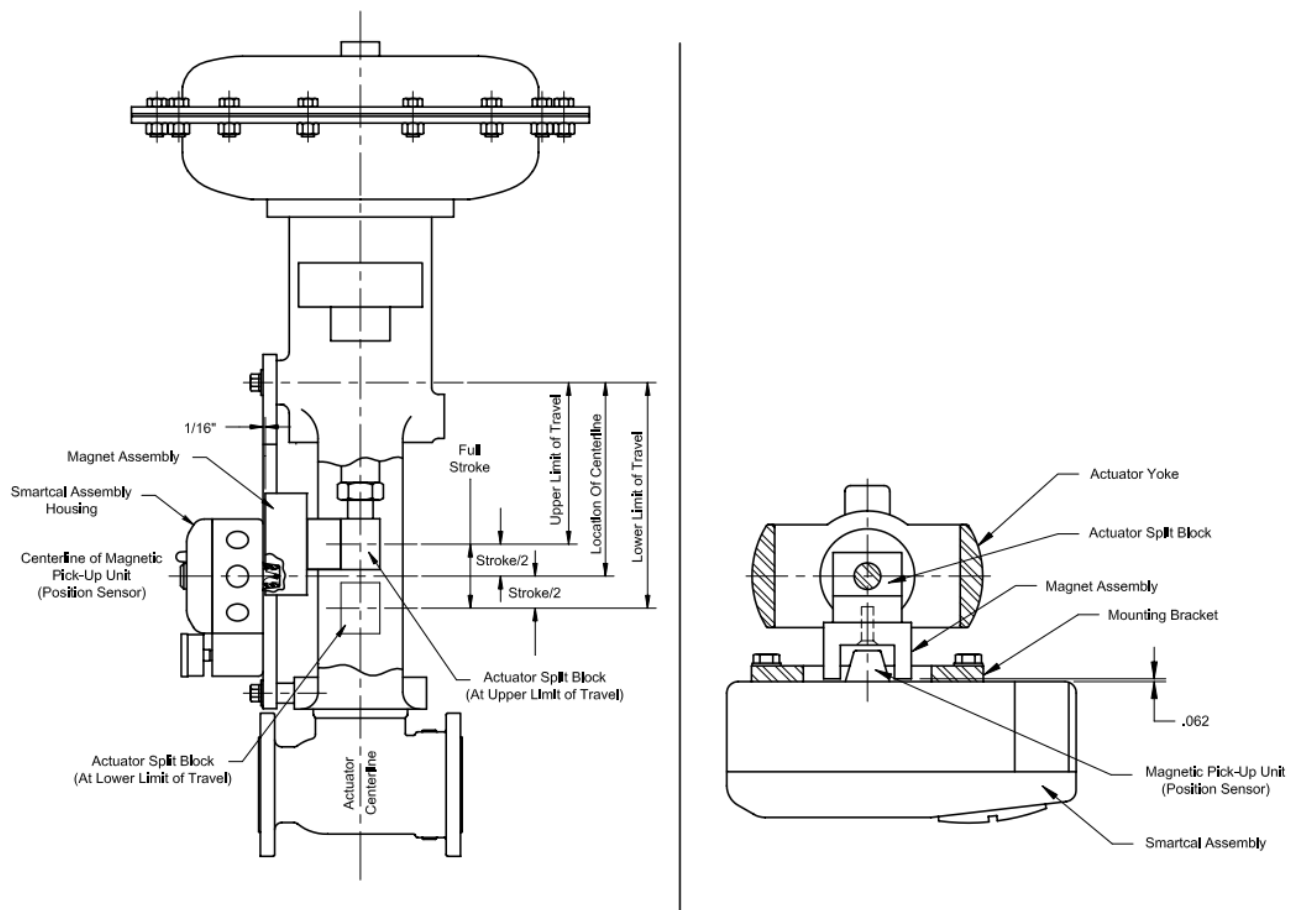

Figure 3-5
Step 3. Mount the positioner to the mounting bracket. The positioner should be mounted so the magnetic pick-up unit of the positioner is centered between the limits of the magnetic assembly's stroke. After mounting the positioner, the magnet assembly should be within 1/8" [3.2 mm] from the back of the positioner (1/16" [1.6 mm] is ideal), (See Figure 3-5)